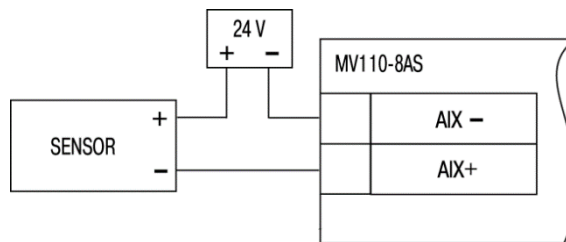

Fig. 4.2 Connection of 2-wire sensors
- The inputs should be wired in accordance with Fig. 4.2 – 4.3.